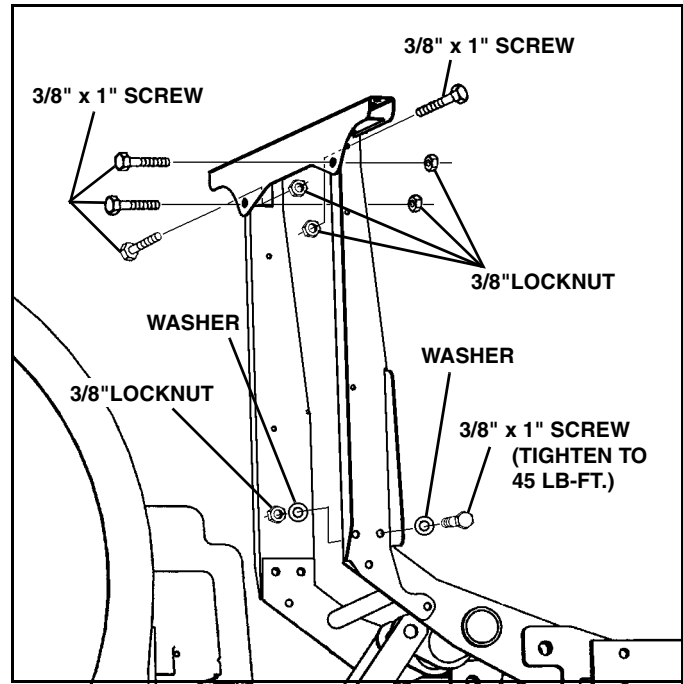

Figure 1-10
18. Remove left and right light supports from Power Pack carton. Secure each light bar support to lift/light bar with (4) 3/8" x 1" screws, (8) washers and (4) lock nuts from the light bar parts bag part number 96106089. Do not tighten at this time. (See Figure 1-10).